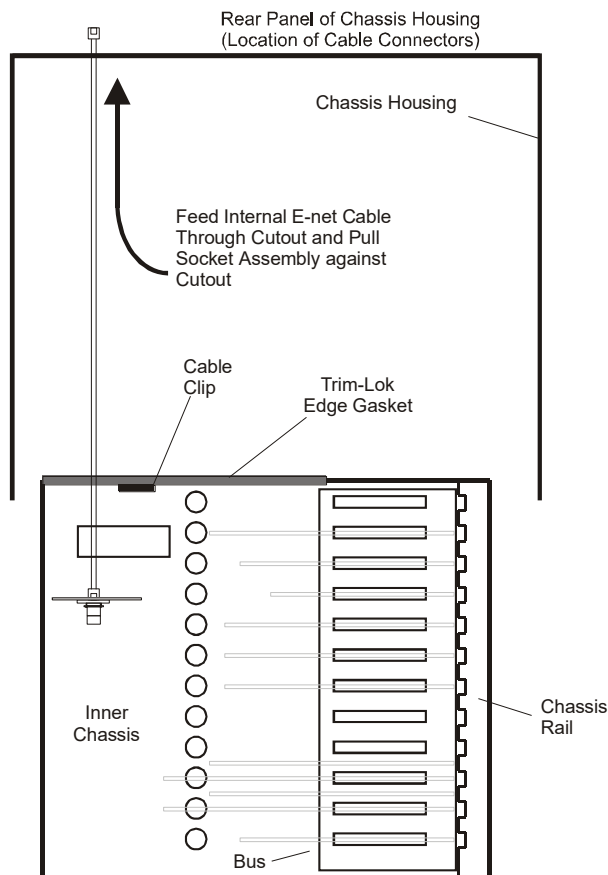

Figure 6: Feeding the internal Ethernet cable through the cutout to pull the RJ-45 Coupler Assembly into position on the rear panel of the DFR
- 19. From the inside of the electronics chassis, feed the free end of the cable through the chassis and out through the cutout as shown in Figure 6.